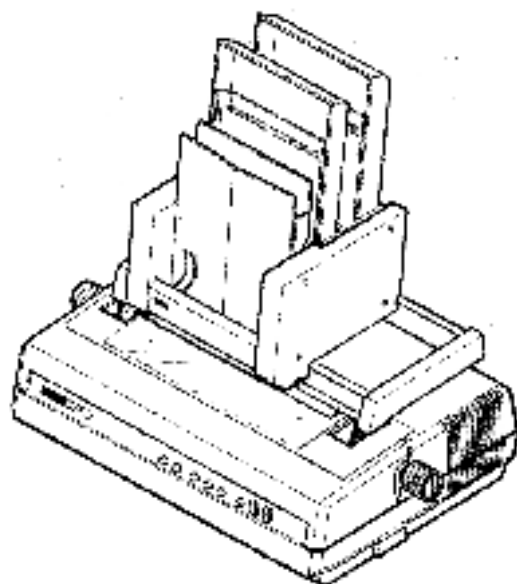

Figure 1-2 ASF with Loaded Trays
1. Make sure the front and rear trays are in place and loaded (Figure 1-2).
1. Press the form feed switch once (Figure 1-2).